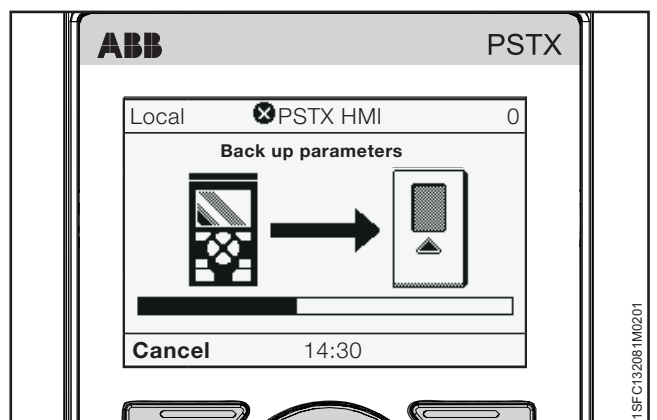

Figure 6.32
4. Push  "Select" for the upload of the parameters. This shows as in Figure 6.32.